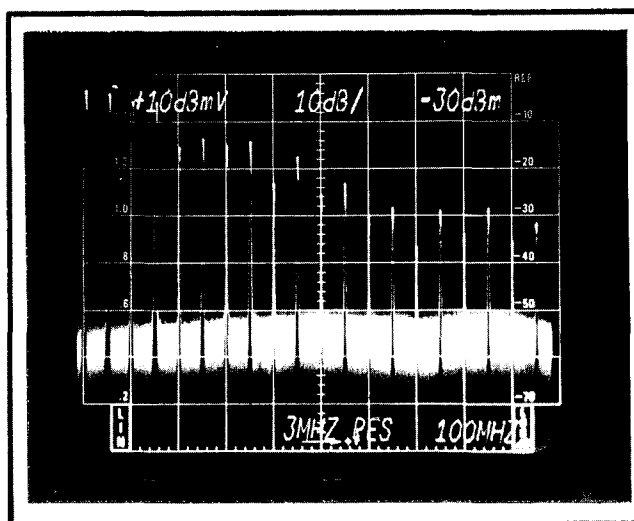

Fig. 3-1. 50 MHz markers across a 1000 MHz display.
c. Check the 1000 MHz span for 50 MHz markers out to 900 MHz. Marker amplitude will decrease toward the upper end of the spectrum. See Fig. 3-1.